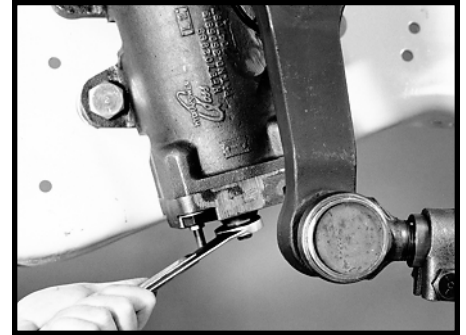
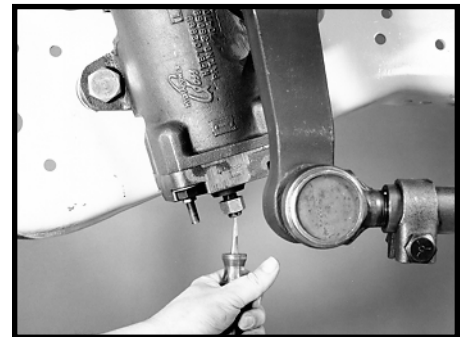

Figure 33
Figure 34
- 3.1 Back off the worm shaft adjusting screw sealing nut (39) three turns. SEE FIGURE 33. Back off the worm shaft preload adjusting screw (38) at least one turn. SEE FIGURE 34. Inspect the threads between the jam nut and end cover (37) for foreign matter. Clean the threads or replace the sealing nut if necessary. SEE FIGURE 35.